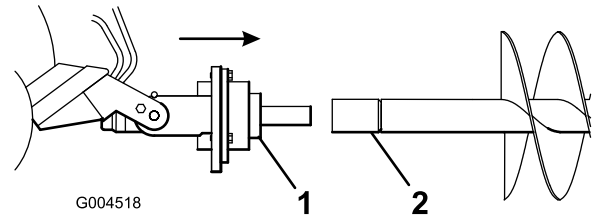

Figure 7
8. Maneuver the drive shaft into the end of the auger shaft or extension (if applicable) as shown in Figure 7.